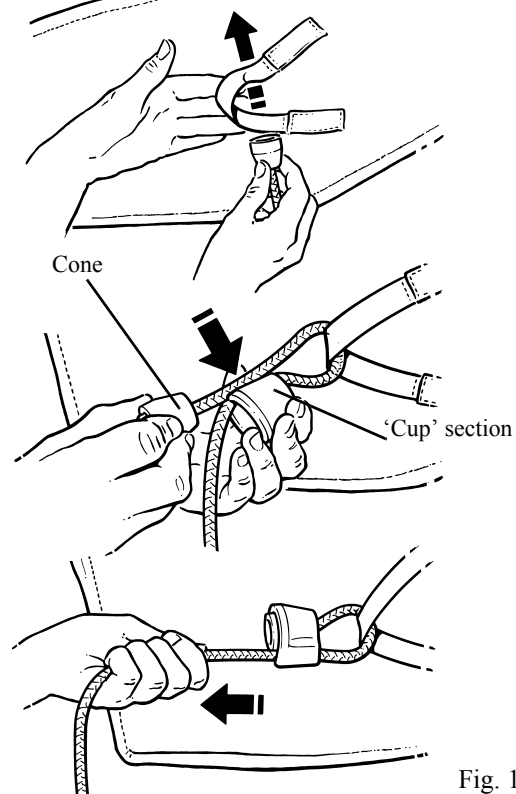

Fig. 18
Take each adjustment cord in turn and attach to the sling. (See Fig. 18).
**Warning:** Ensure the cone is pulled tightly into the cup section. (See Fig. 18).
Identify the attachment loop on each side of the sling and attach the right hand adjustment cord to the left loop, repeat for the other side (see Fig. 29). See also Fig. 18 for attachment of the cords.